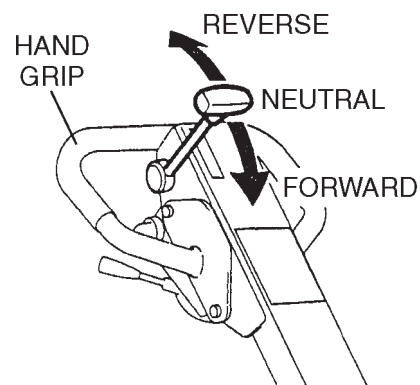

Figure 15. Direction Lever
3. To make the compactor move in the forward direction push the travel lever (Figure 15) forward.
- To make the compactor move in the reverse direction pull the travel lever ( Figure 15) backwards.